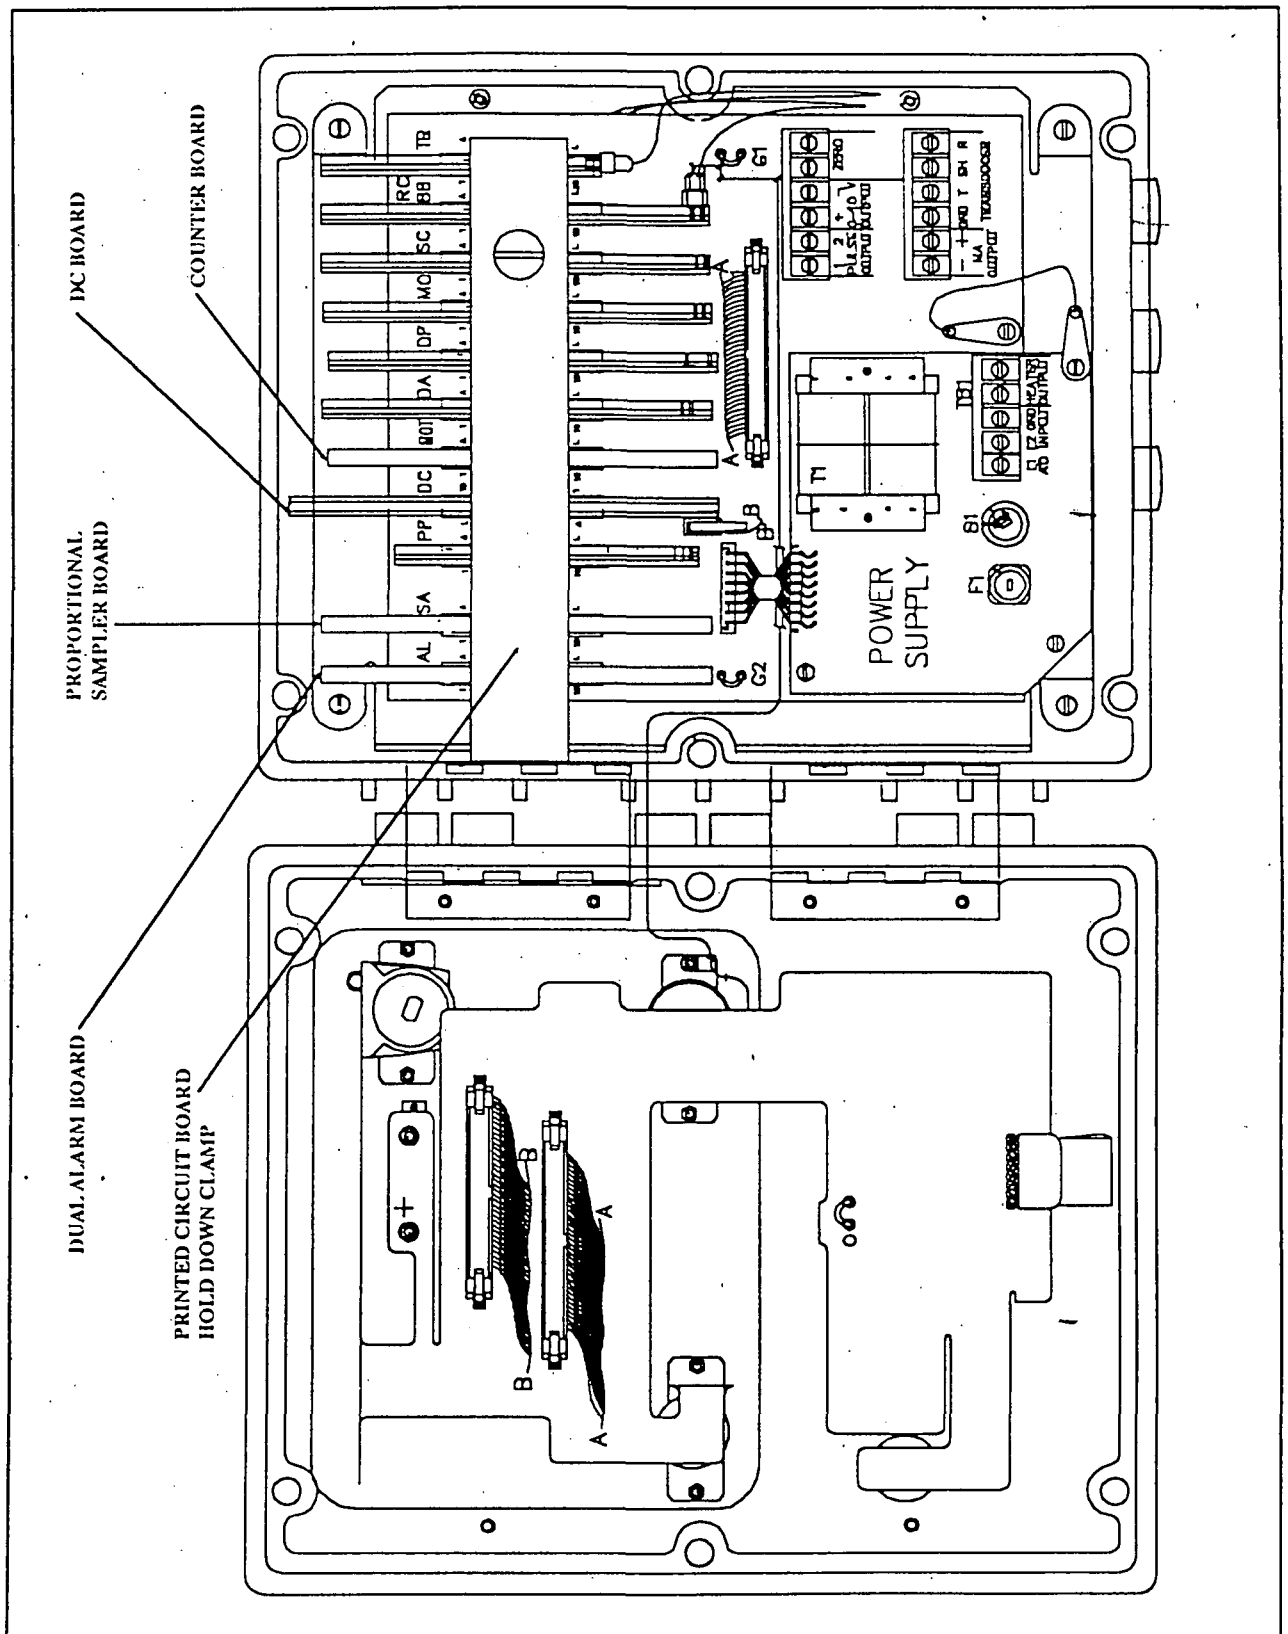

Figure 4-3
5. Unscrew the printed circuit board hold down clamp thumbscrew and remove the printed circuit board hold down clamp (Figure 4-3).
6. Remove the DC board from the fourth slot from the left side of the flowmeter (Figure 4-3).
8. Replace the DC board in the fourth slot from the left side of the flowmeter (Figure 4-3). Turn on the electrical power to the flowmeter.
14. Remove the DC board from the fourth slot from the left side of the flowmeter (Figure 4-3).
16. Replace the DC board in the fourth slot from the left side of the flowmeter (Figure 4-3).